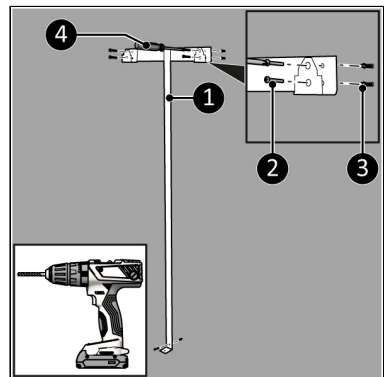

Figure 7.
4. Place the wall bracket (Figure 7, pos. 1) against the wall and mark the five holes.
6. Place plugs (Figure 7, pos. 3).
7. Screw and tighten the wall bracket (Figure 7, pos. 1) to the wall with five large screws (Figure 7, pos. 2) using a Phillips screwdriver (Figure 7, pos. 4).